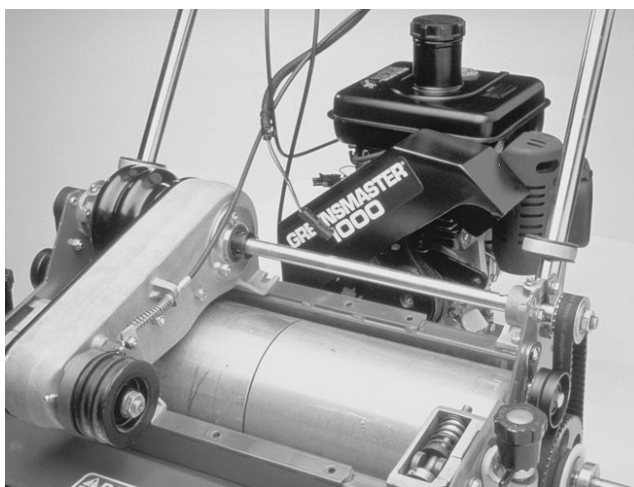

Figure 52
5. Remove cable clips from the cables, wires, and handle assembly. Removal of the wires and cables is not necessary. Lift the engine with the engine base from the frame and set them behind the mower (Fig. 52)
10. Lift engine with the engine base from behind the mower onto the frame. Reinstall cable clips to the cables, wires, and handle assembly (Fig. 52)